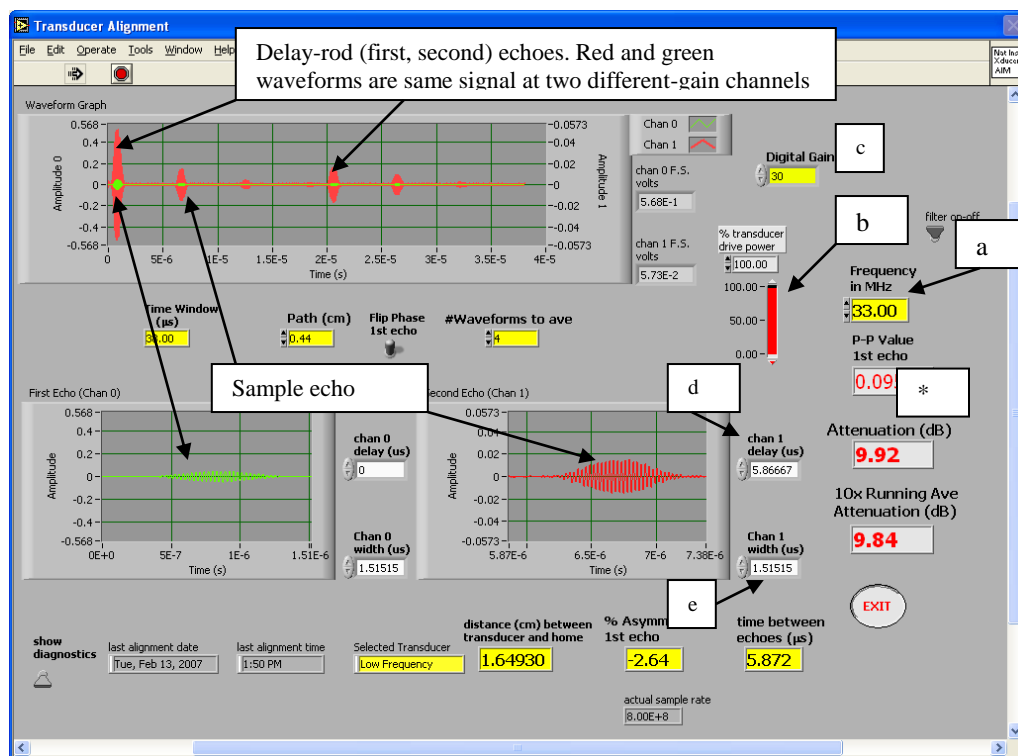

Fig. 2. Fine alignment settings for LF transducer.
- I. Turn the two fine-alignment screws (see stage photo in the Zeta-APS manual) in order to minimize the Attenuation (dB) value as shown on figure 2.